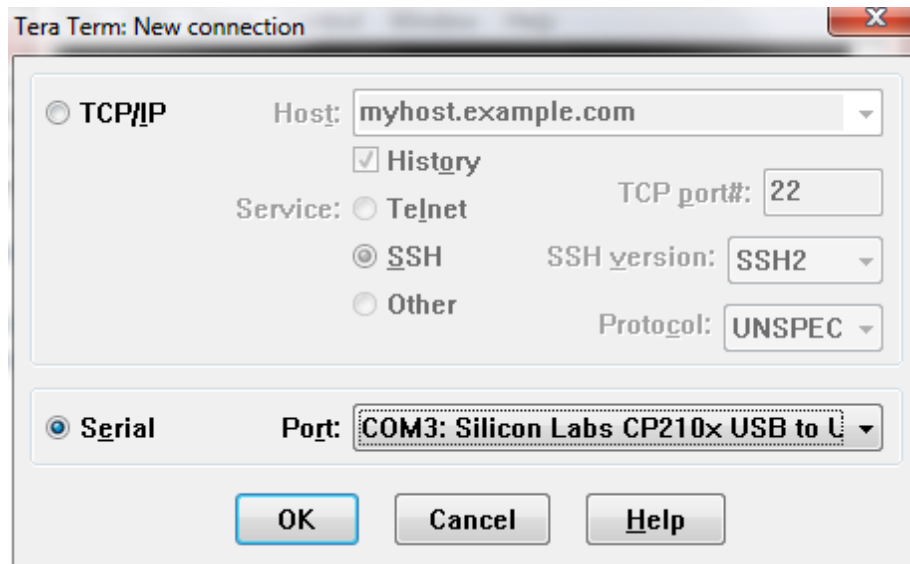

Figure 9: New Serial Connection
9. Start a terminal program (for example, TeraTerm or PuTTY) on the host PC on the determined UART COM port, as shown in Figure 9.